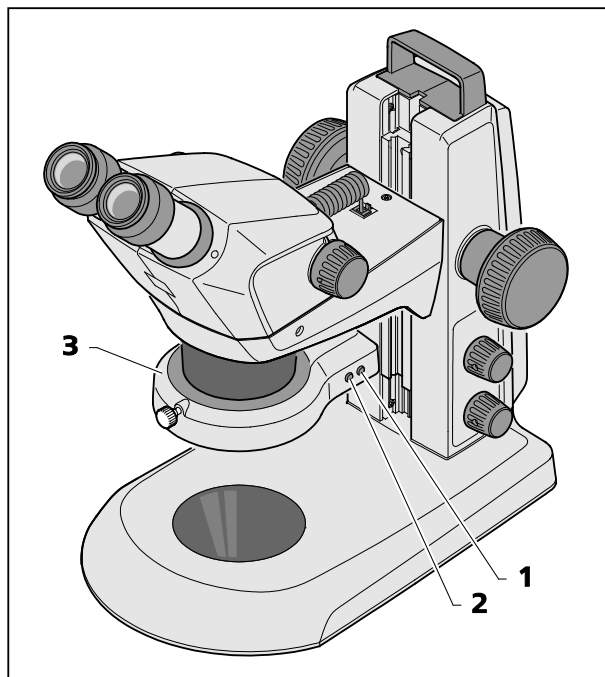

Fig. 23 Ring illuminator
- By pressing the front button (Fig. 23/2) successively, the user can change over between four illumination states of the ring illuminator (Fig. 23/3):
- By pressing the rear button once briefly (Fig. 23/1), the adjusted segment is turned forward clockwise by one quarter turn in each case.
- By pressing and keeping the rear button (Fig. 23/1) pressed for over 2 seconds, the adjusted segment is set into continuous rotation (rotation steps of 1/8 circle, 1 second per turn in each case).
- By pressing the rear button once more (Fig. 23/1), rotation is stopped and the specimen is backlit again.